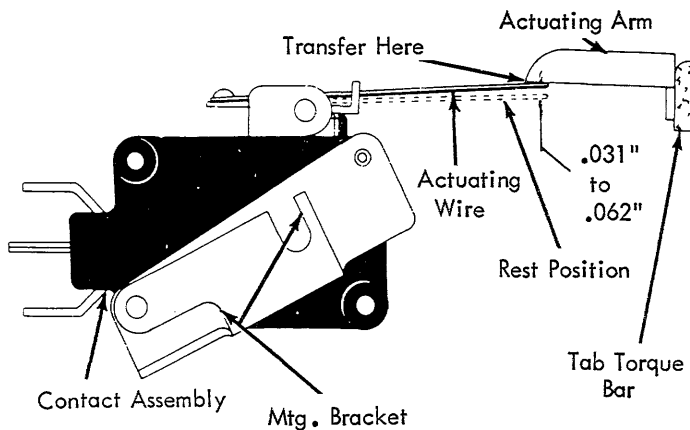

FIGURE 175. Interlock Contact
- c. As the tab torque bar restores, position the mounting bracket (up or down) so that the contact actuating wire travels .031" to .062" after the contact transfers (Fig. 175). This is done to insure that machine vibration does not cause the contact to transfer.